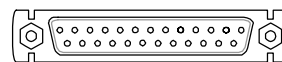

Figure 5: Sample serial port
2. Plug the DB-25 connector into the serial port on the back of the printer (See Figure 5, below). Tighten the screws.